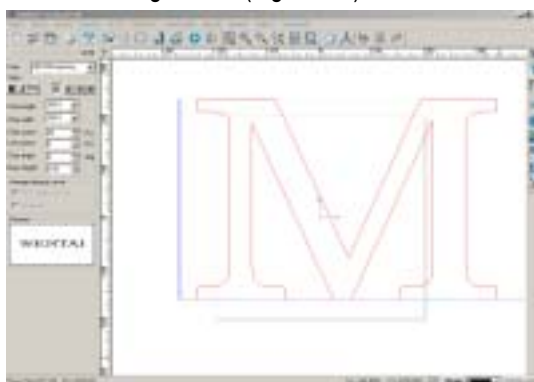

Fig. 12-11
3. Type the letter "M" in the drawing winow. (Fig. 12-11)